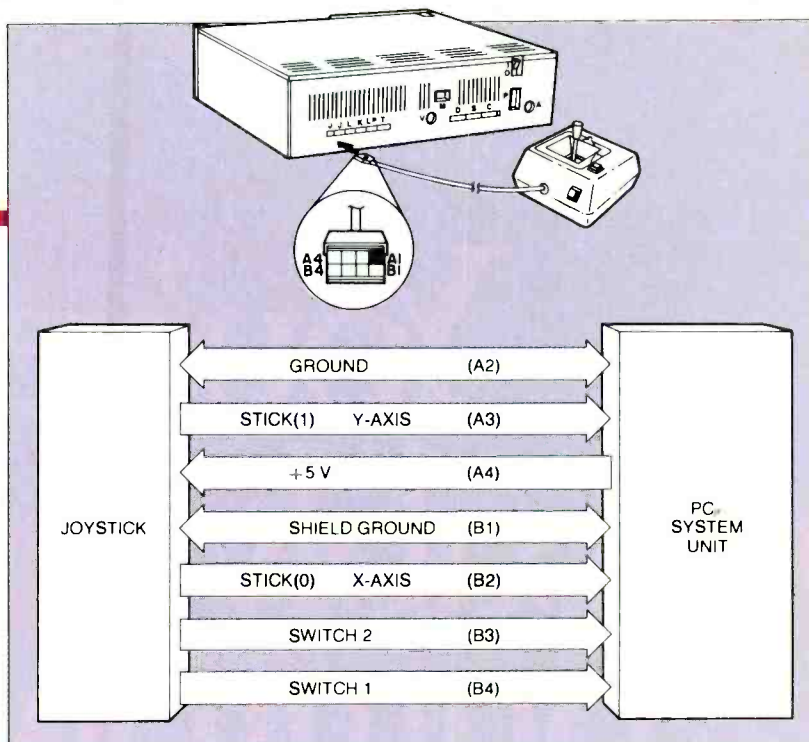

Fig. 5 PCjr joystick connections.
Figure 4 shows the internal circuitry of Junior's joysticks. The STICK(0) command addresses the x-axis potentiometer, the one for which the photocell should be substituted. Figure 5 shows the connections between Junior and a joystick and also identifies the pin posi-